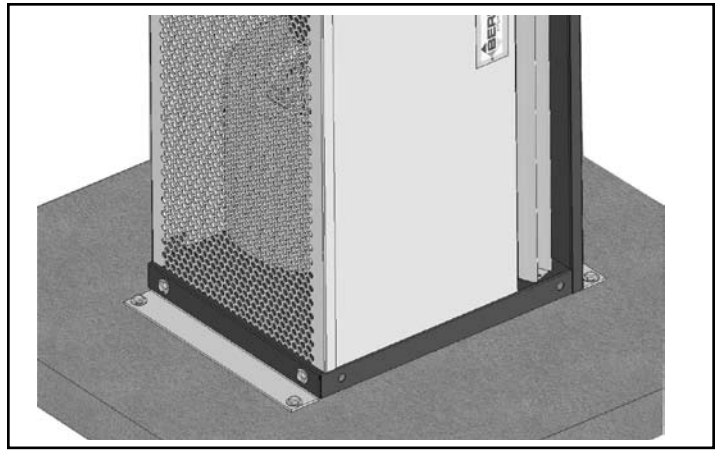

FIGURE 6 - Floor Mounting
D. Position the unit vertically in its intended position and anchor it to the floor with a minimum 3/8" fastener. **See Figure 6**.